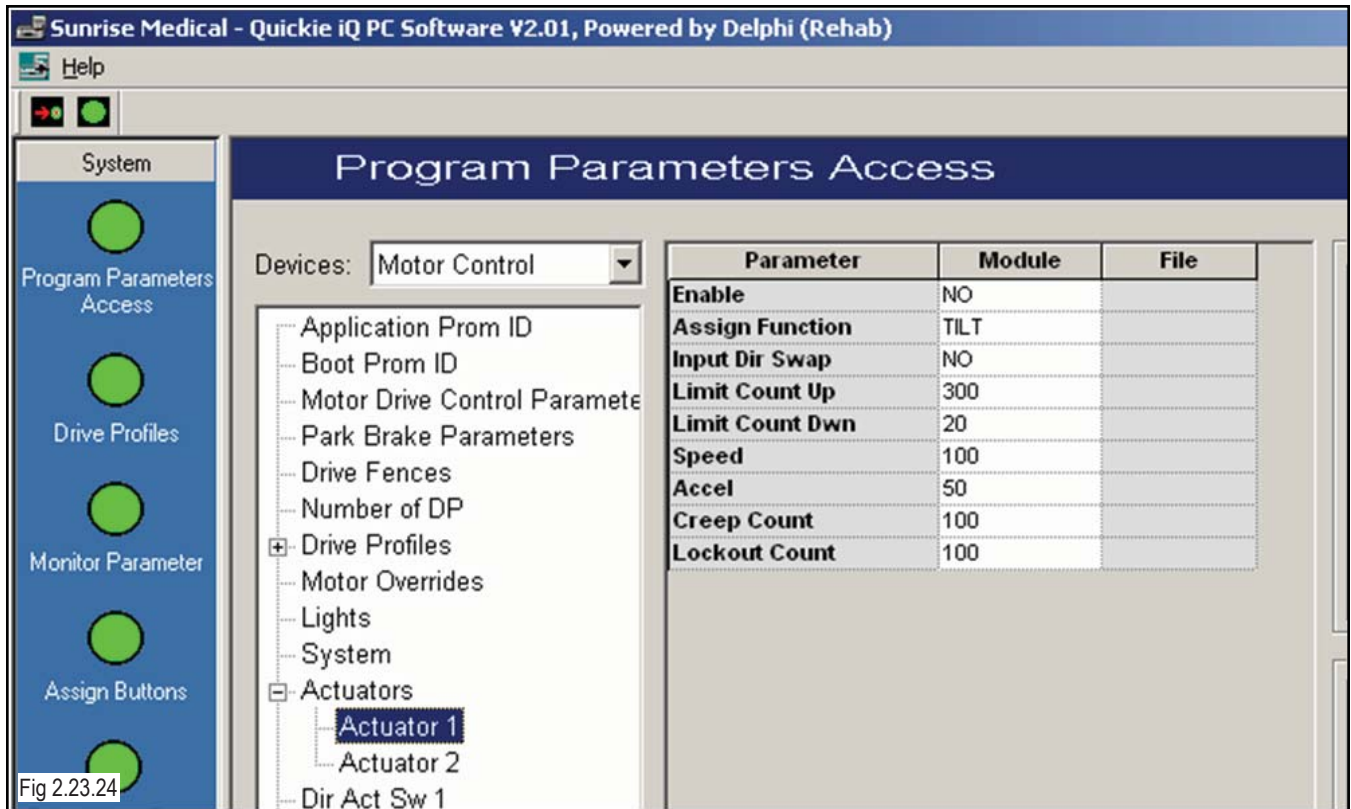

Fig 2.23.24
- If using Quickie iQ, this value may be found under Programmed Parameters Access, Motor Control, then Actuator 1 or 2. (fig 2.23.24)